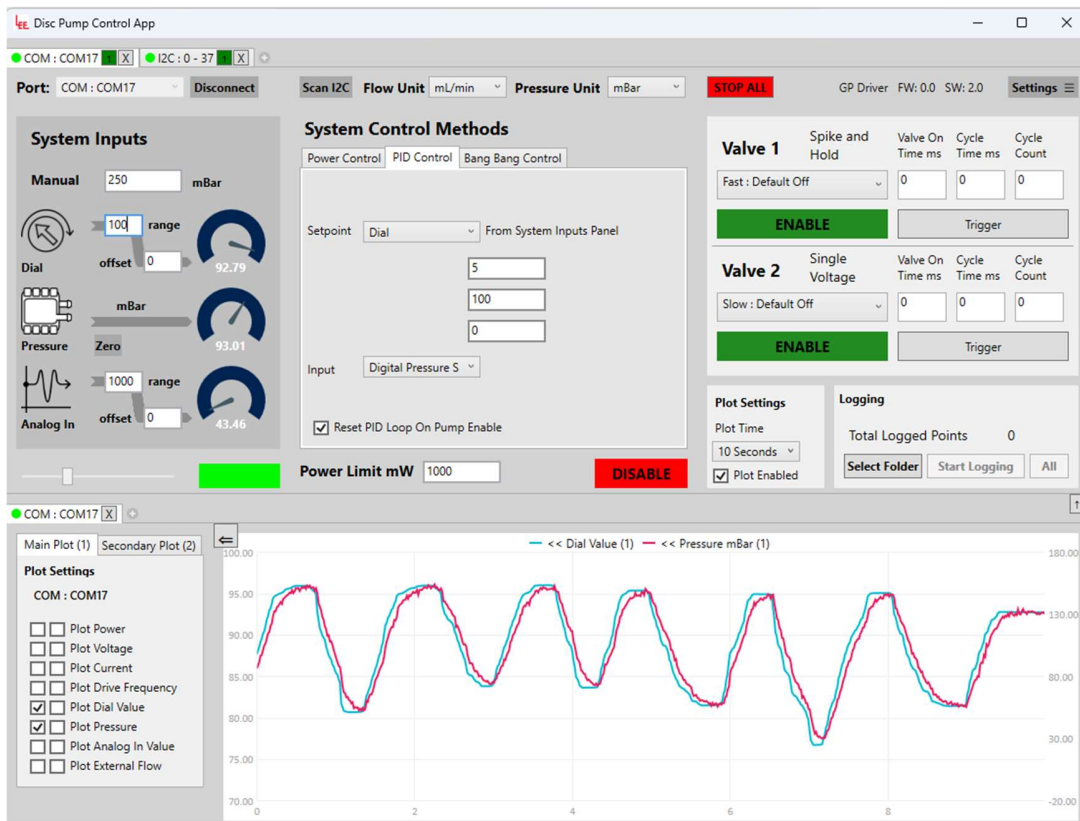

Figure 59 GUI showing PID control setup. Dial value shown in teal and pressure shown in red.
- In the second drop down box below the PID variables, select Digital Pressure Sensor. (This is the variable which is controlled by the PID loop to match the control input) as shown in Figure 59.
Figure 59 shows how the output pressure profile matches the setpoint dial value (our simulated analog input). The accuracy of the tracked pressure will depend on the PID settings as well as pressure and flow capability of the pump.